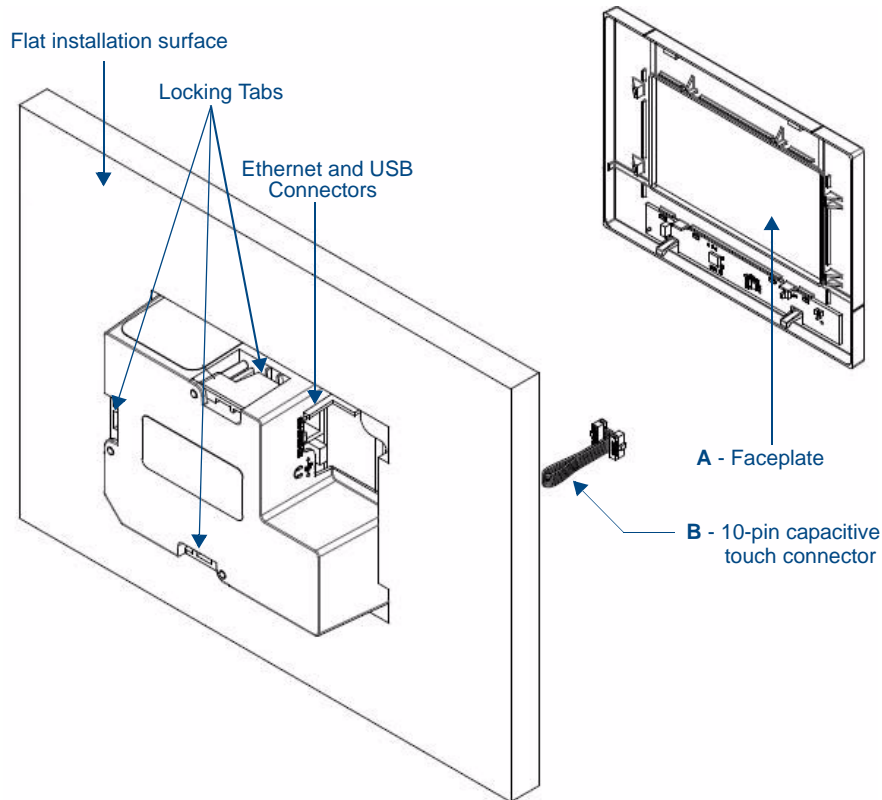

FIG. 12 Wall Mount panel installation configuration for flat surfaces
3. Remove the faceplate (A in FIG. 12) from the touch panel by gripping the faceplate and carefully pulling up and out with gentle force.
4. Disconnect the capacitive touch connector (**B** in FIG. 12) from the 10-pin male plug on the faceplate.
9. Insert and secure three #4 Mounting Screws (not included) into the corresponding holes located along the sides of the device, using a grounded Phillips-head screwdriver, until the unit is secure and flush against the wall (FIG. 12).